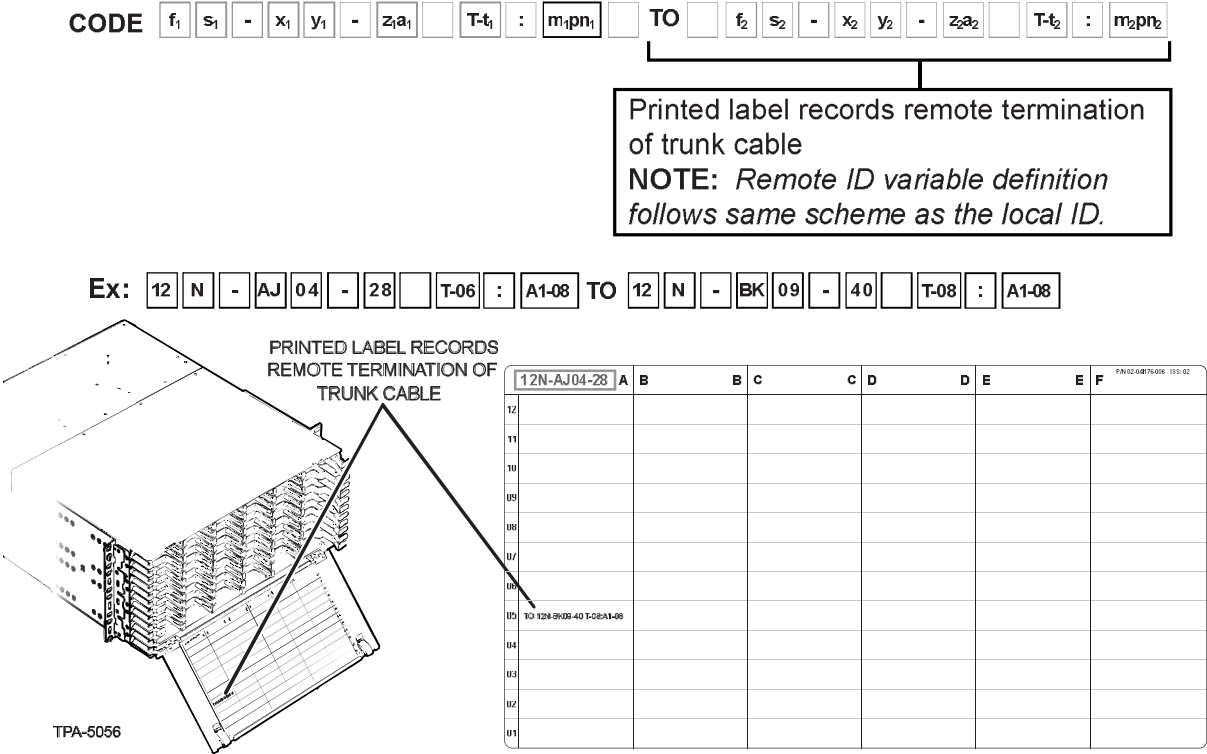

Figure 32 — Print Remote Termination Label
Step 5: Documentation (Figure 32)